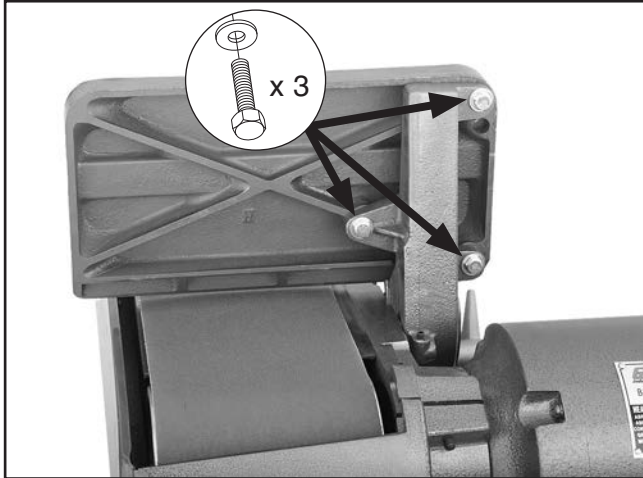

Figure 14. Sanding belt table installed.
4. Attach the sanding belt table to the trunnion by finger tightening the (3) $\frac{5}{16}$ "-11 x 1" hex bolts and $\frac{5}{16}$ " flat washers from underneath the table, as shown in **Figure 14**. The hex bolts will be fully tightened when aligning the tables in later steps.